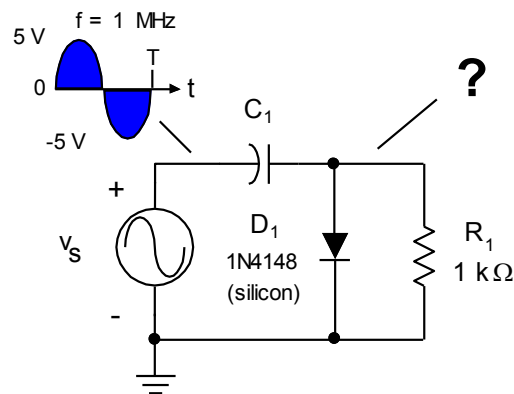

Figure 3-57.
- 3-9. Given the circuit shown in Fig. 3-57, sketch the waveform that will appear across resistor R_I . Be sure to label the positive and negative peak values. What is the DC level across R_I ?
- 3-10. Determine the *minimum* time constant for the circuit given in Fig. 3-57 if the *lowest* signal frequency is 1 MHz. If R_I is to be 1 k Ω , determine the nearest *standard* capacitor value. (Standard capacitor values can be found using an internet search engine.)